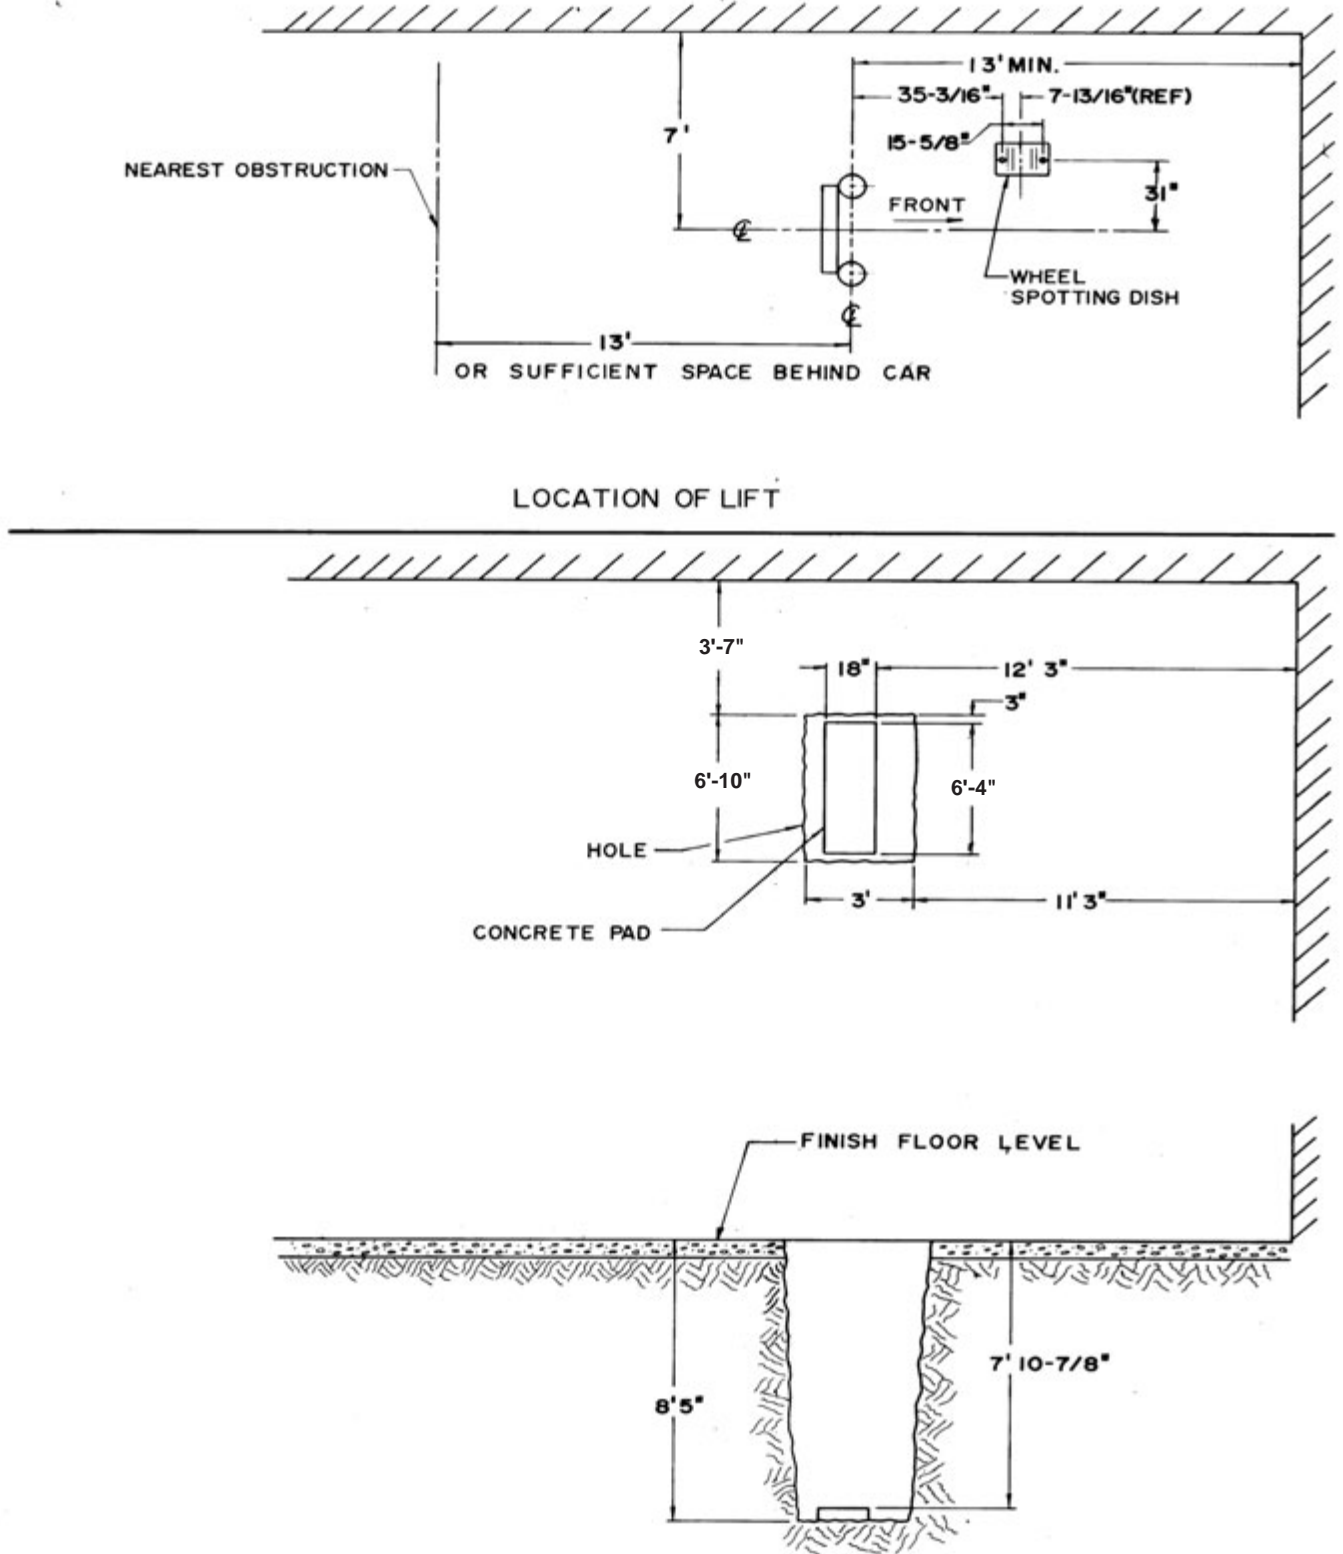

Fig. 2
3. Determine lift location and provide proper working space and clearance as outlined in previous section "Locating the Lift." After determining lift location, excavate a hole, centered on this position to receive the two-post plunger-cylinder assembly with racks, pinions, and housings assembled. Dimensions of this excavation are shown in Fig. 2. Pour concrete slab in the bottom of the plunger-cylinder excavation. The approximate dimensions of this slab are shown in Fig. 2.